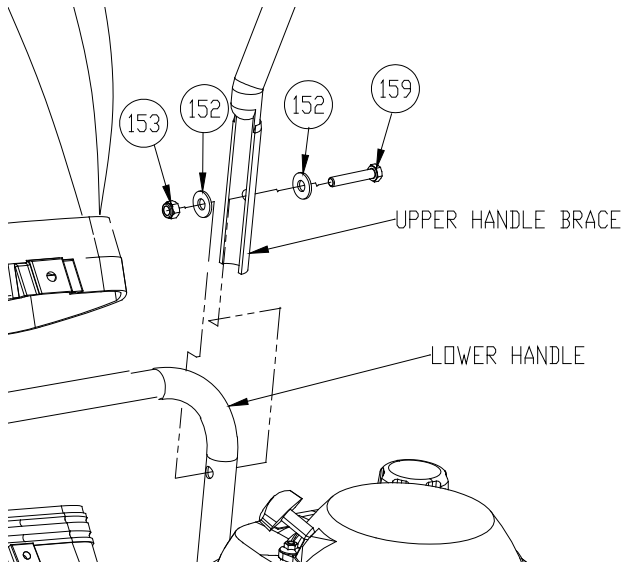

Fig. 3
4. Attach upper handle brace to lower handle using corresponding hardware. Then repeat this step on the other side. (See Fig. 3 next page)